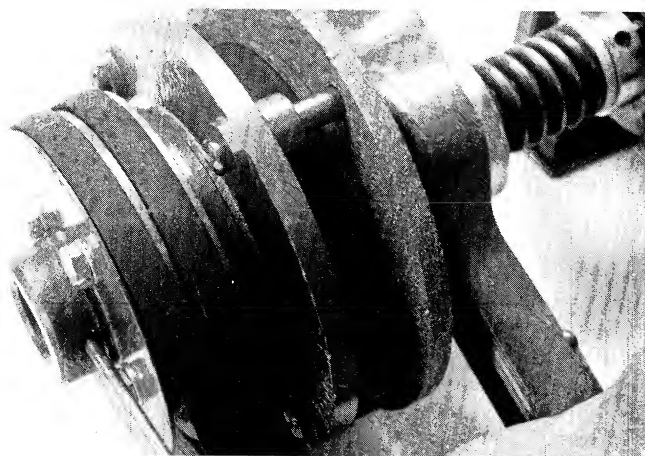

FIGURE 21. REMOVING ROLL PIN
1. Drive out the roll pin with a drift and a hammer. See Figure 21.